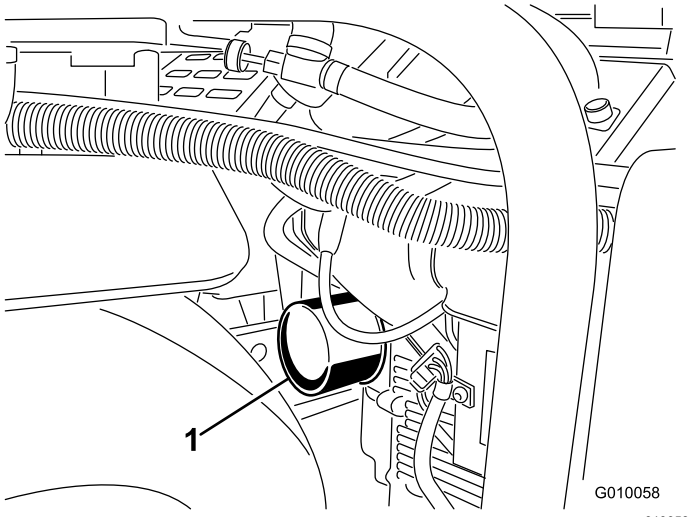
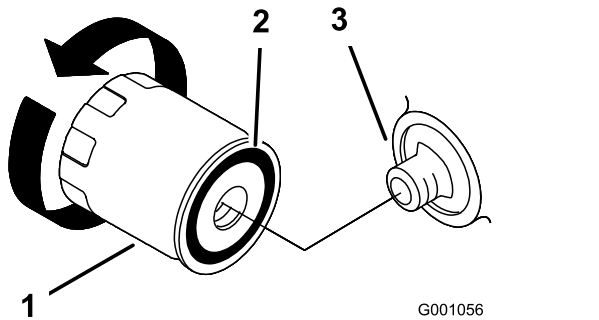

Figure 45
Figure 46
- Place a shallow pan or rag under the filter to catch oil (Figure 45).
- Remove the old filter (Figure 45 and Figure 46) and wipe the surface of the filter adapter gasket.